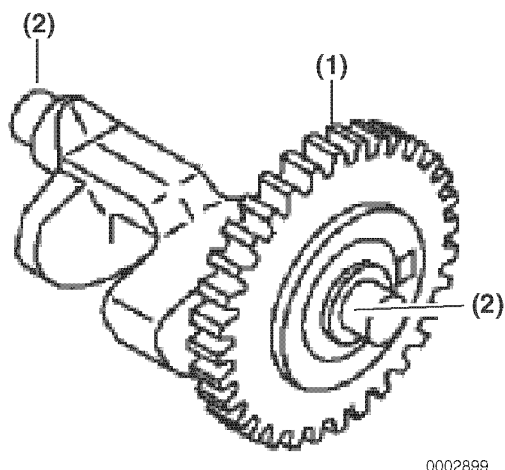

Figure 6-64
Check the balancer shaft for wear or damage to the gear (**Figure 6-64, (1)**). Measure and inspect the bearing support ends (**Figure 6-64, (2)**) of the balancer shaft and bearings for wear and damage. Replace the balancer shaft and bearings if specifications are not within limits or damage is evident. See *Balancer Shaft on page 6-9* for the service limit.